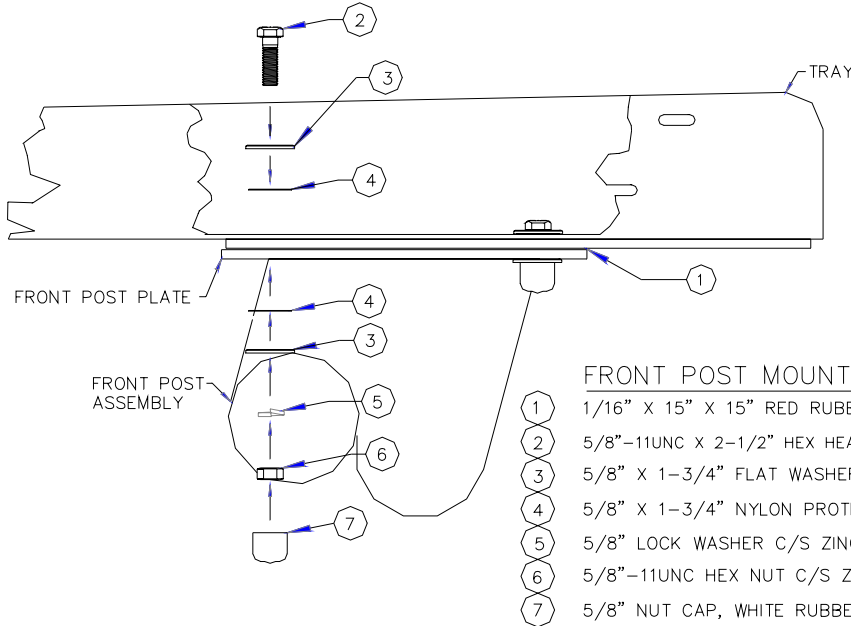
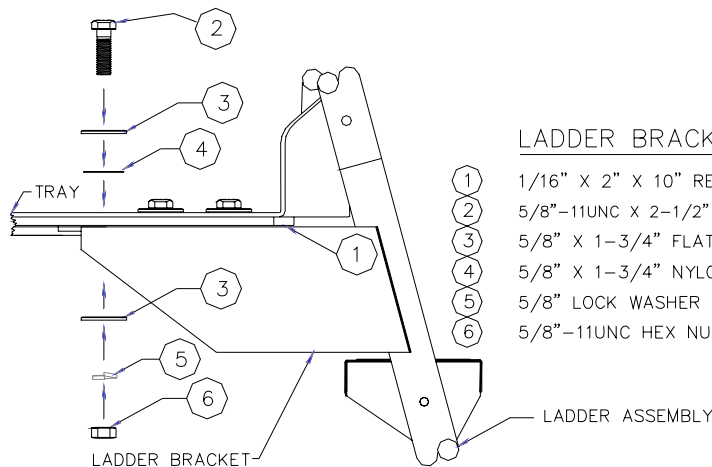

FIG. 8
FIG. 9
6. Place gaskets on top of the Ladder Brackets, Front Post Plate and Heel Post Flange. Place Tray on these gaskets and align holes in Tray with the holes in the Front Post Plate. Assemble with hardware according to Fig. 8. Align holes in Ladder Brackets and Heel Post Flange with the holes in the Tray. Assemble with hardware according to Fig. 9 and 10. See step 7 for tightening schedule.